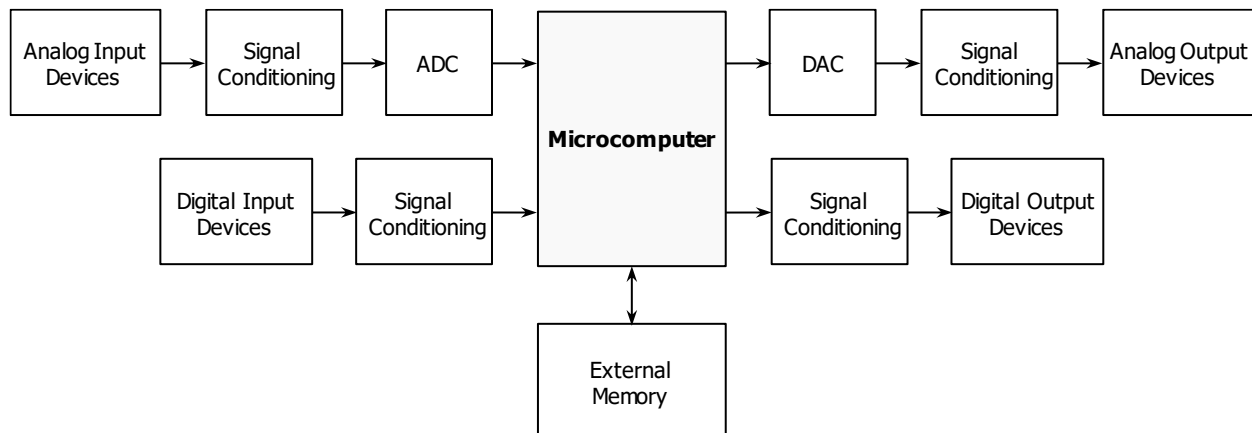

Figure 1. Block Diagram of an Embedded System.
- Fig. 1 depicts a generic block diagram of an embedded system. The microcomputer (a μ controller: μ processor with extra features) is the central part of the system. It resembles a PC, but its software programs are often permanently stored to provide only the functions required for the product. This software, critical to the operation of the product, is referred to as *embedded software*. The microcomputer includes some memory; additional memory can be added externally. The human interface of the microcomputer may be limited or nonexistent. Large storage components are not present. Input and output devices that can be analog (e.g.: thermistor, speaker) or digital (e.g.: switch, keypad, stepper motor, LED display).